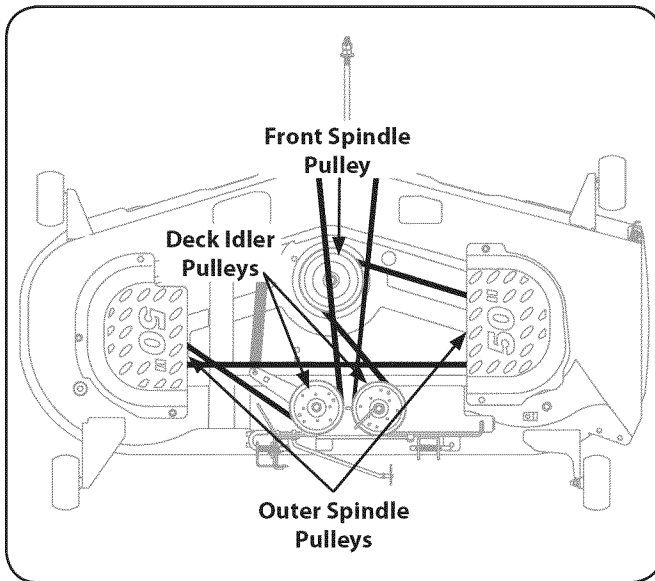

Figure 7-8
- To place the new belt, begin by routing the belt around the two outer spindle pulleys, then around the front spindle pulley as shown in Fig. 7-8.
- Then route the belt around the two deck idler pulleys as shown in Fig. 7-8.